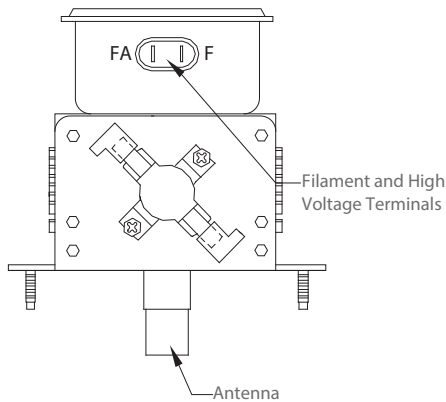

Figure 79: Magnetron
Magnetrons (Figure 79) supply RF energy at 2.45 GHz. The magnetron will start to oscillate once it is supplied with approximately 4.1 kVDC at approximately .350 mA. During operation, the magnetron will output a nominal 1 kW of power.
2. Isolate the magnetron from the circuit by removing the wires from the F and FA terminals. Figure 79.
3. An ohmmeter connected between the filament terminals (F, FA) should indicate a reading of less than 1 ohm. Figure 79.